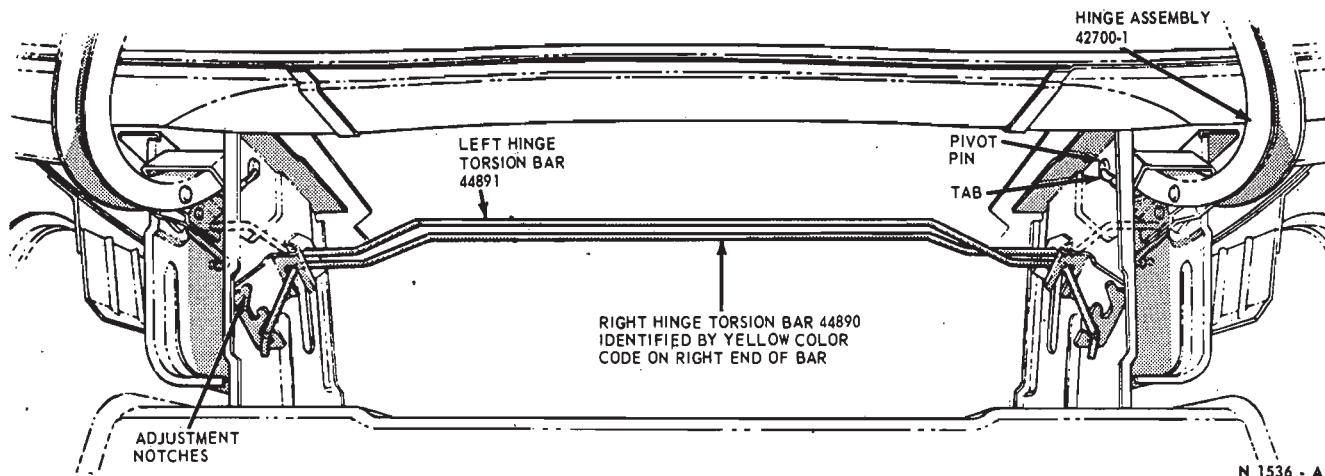

FIG. 8—Luggage Compartment Door Hinges—Thunderbird and Continental Mark III
3. Disconnect the torsion bar from the opposite hinge mounting bracket and remove the torsion bar from the hinge to be removed (Fig. 8).
5. Bend the hinge pivot pin retaining tab (Fig. 8) away from the pin. Then, remove the pin and hinge from the vehicle.
3. Install the torsion bar as shown in Fig. 8 and remove the support from the luggage compartment door.